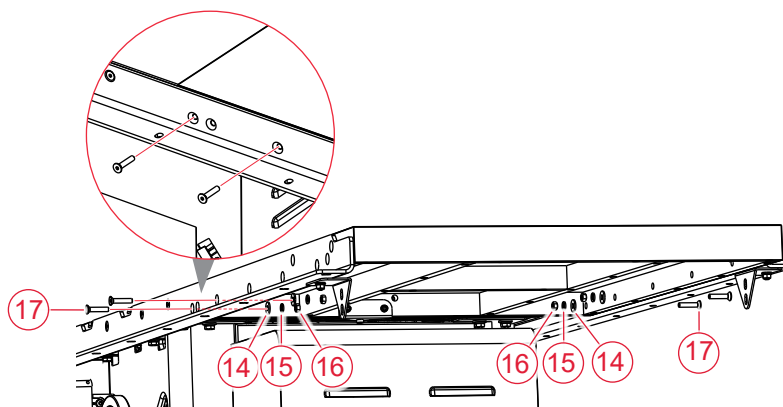

Fig. 13
**Extension Table, 52 Inch Fence System:** Insert an M8 x 40 countersunk socket head bolt (17) through each of the two holes in both the front and rear rails, closest to the wing (Fig. 13).